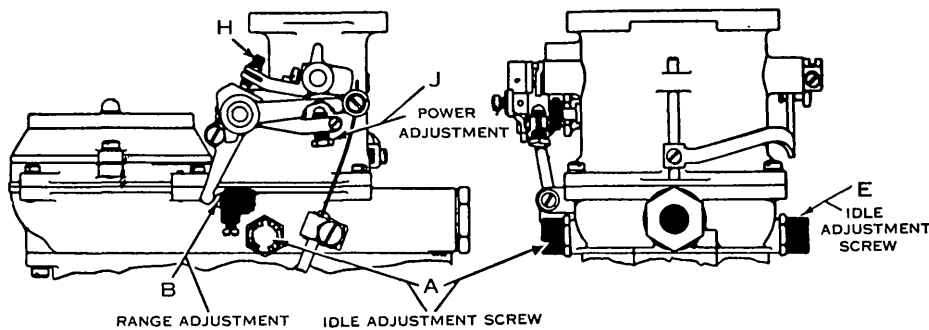

Fig. 6
**Idle Adjustment.**—The Duplex carburetor has two idle adjustment (A) and (E) Fig. 6. Before making any carburetor adjustments, warm up the motor to average driving temperature. Both adjustments (A) and (E) turn in the same direction for rich and for lean. Turning these adjustments to the right (clockwise) makes the mixture leaner and to the left (counter-clockwise) makes the mixture richer.
The adjustment is made by turning the range adjusting screw (B) Fig. 6 to the left for a lean mixture and to the right for a rich mixture in the driving range.
**Power Adjustment.**—The carburetor will give the best mixture for speed and maximum power on the hill when the bottom of the head of the power screw (J) Fig. 6 is setting so that it measures  $7/32''$  to the arm that holds screw (J). On the later Duplex carburetor, there is a small pin located at the side of the screw (J) and the original factory setting is to have the bottom of the head on screw (J) flush with the bottom of the pin. In high altitudes, more power can be obtained by leaning up on the power mixture—turning screw (J) to the left (counter-clockwise) 3 to 5 complete turns. Turning screw (J) to the right richens the power mixture.